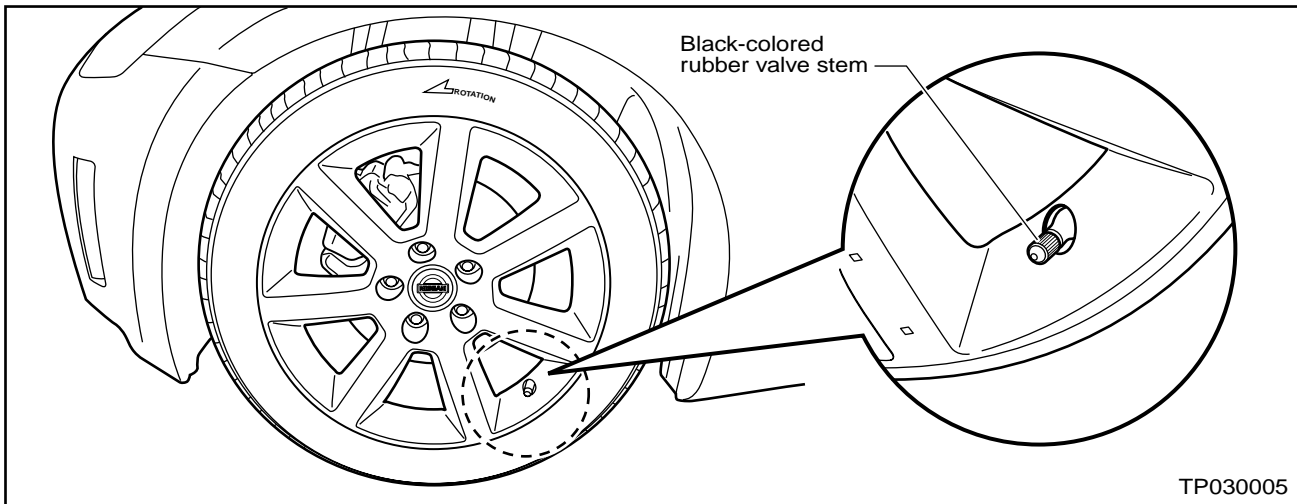

Figure 9
A. If the valve stems are **black-colored rubber-type** (see Figure 9):